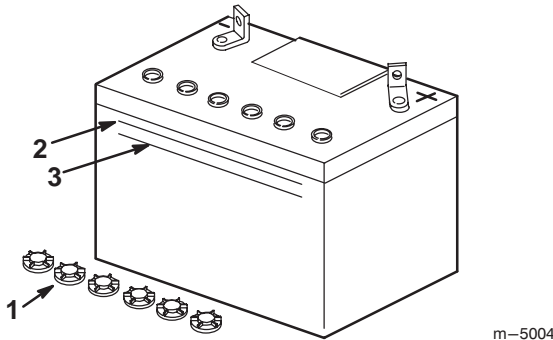

Figure 4
4. Remove the filler caps from the battery (Fig. 4).
5. Slowly pour electrolyte into each battery cell until the level is up to the upper line (Fig. 4) on the battery case.
6. Wait five to ten minutes after filling the battery cells. Add electrolyte, if necessary, until the electrolyte level is up to the upper line (Fig. 4) on the battery case.